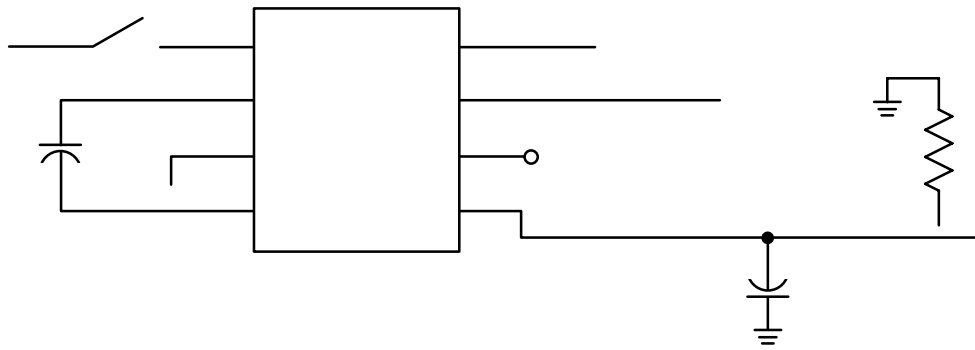

Figure 3. Test Circuit Voltage Inverter
Table 3. ELECTRICAL CHARACTERISTICS (V+ = 5 V, C1 = C2 = 100 μF, Boost/FC = Open, C_{OSC} = 0 pF, and Test Circuit is Figure 3 unless otherwise noted. Temperature is T_A = T_{AMIN} to T_{AMAX} unless otherwise noted.)
- In Figure 3, test circuit electrolytic capacitors C1 and C2 are 100 μF and have 0.2 Ω maximum ESR. Higher ESR levels may reduce efficiency and output voltage.